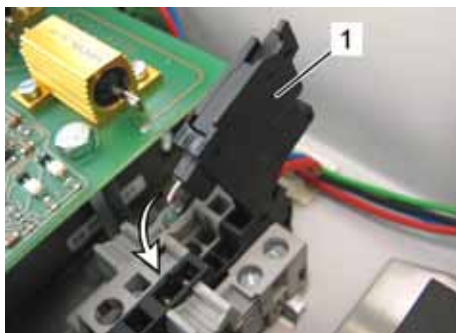

Fig. 101: Power switch
3. If not so close the power switch (Fig. 101/1).